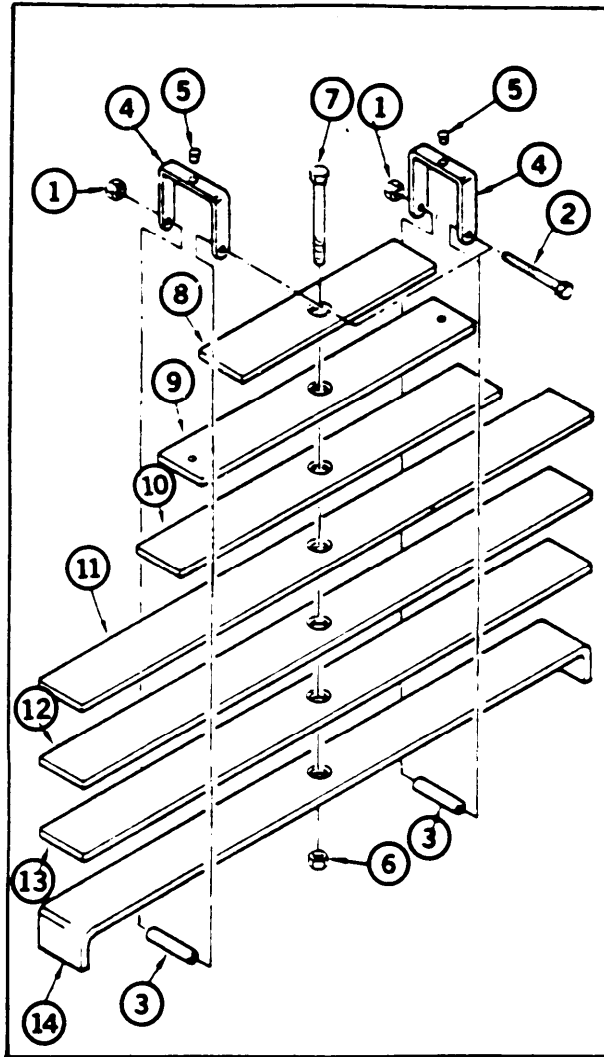
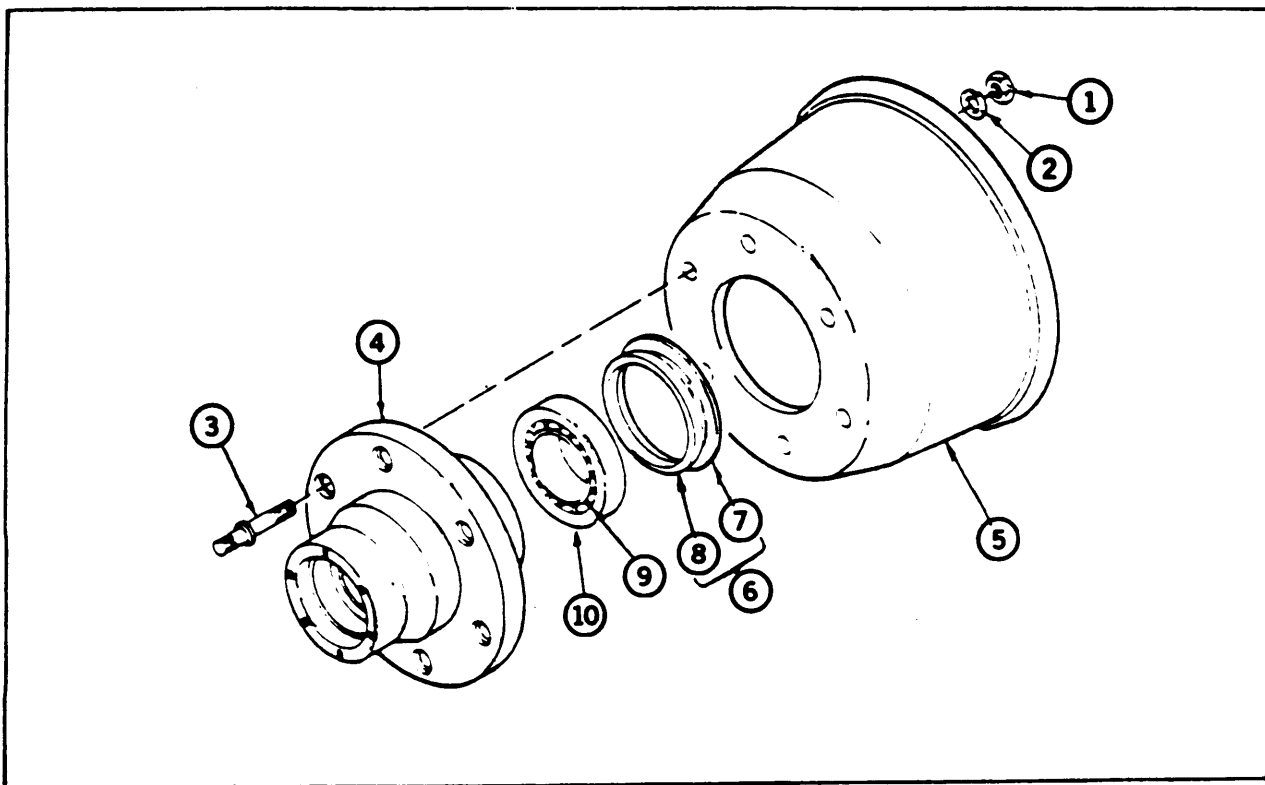
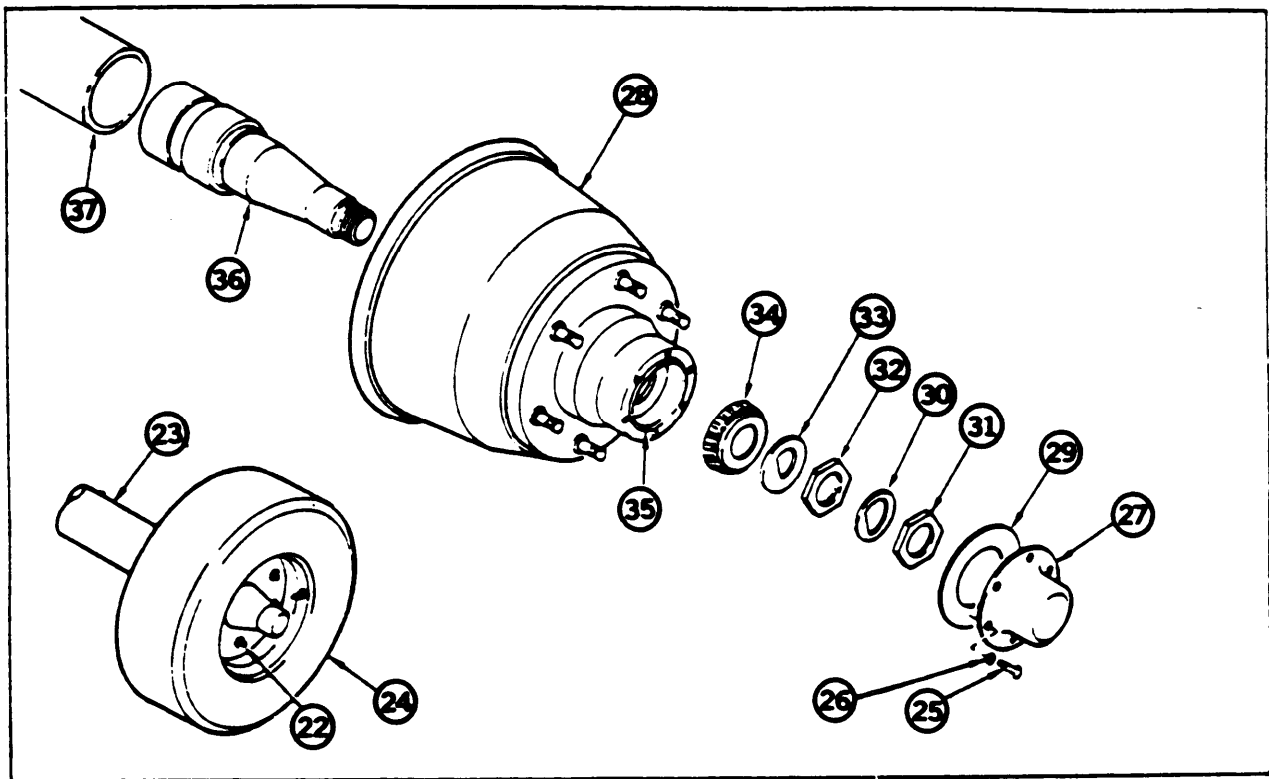

Figure 3-53. Trailer Spring Assembly (ARMY)
Figure 3-54. Trailer Hub and Drum Assembly (ARMY)
Figure 3-55. Trailer Axle Bar Assembly
- (2) Remove screws (17), clamps (18), and (19), and trunnion bracket (20) from axle trunnion (8). Remove spacer ring (21).
- (3) To disassemble the spring assembly (figure 3-53), perform the following:
- (a) Remove nuts (1), screws (2), spacer tubings (3), and angle bars (4). Remove rivets (5) if damaged.
- (b) Remove nut (6) and screw (7), then separate bars (8) through (14).
- (4) Using a standard lug nut wrench and handle available from a towing vehicle, loosen lug nuts (22) (figure 3-55).
- (6) Carefully remove tire and wheel assembly (24) from hub and drum assembly.
- (7) Remove bolts (25) and washers (26) securing hub cap (27) to hub (28). Remove hub cap (27) and hub cap gasket (29).
- (8) Bend tab of spindle tongue washer (30) up to allow removal of outer spindle nut (31).
- (9) Using spindle nut wrench and handle available from a towing vehicle, remove outer spindle nut (31). Remove spindle tongue washer (30).
- (10) Using the spindle nut wrench and handle, remove inner spindle nut (32), then remove spindle lock washer (33).
- (11) Carefully remove outer bearing cone (34); outer bearing cup (35) will remain in hub.
- (12) Carefully remove hub and drum assembly as a single unit.
- (13) To disassemble the hub and drum assembly (figure 3-54), perform the following:
- (a) Remove nuts (1), washers (2), and studs (3).
- (b) Separate hub (4) and brake drum (5).
- (c) Remove grease retainer assembly (6). It can be separated into ring (7) and seal (8).
- (d) Remove inner bearing cone (9) and cups (10).
- (14) To disassemble the axle bar assembly, which is welded, separate spindle (36) (figure 3-55) from tube (37).
- (1) If new spindle is to be installed, weld spindle (36) (figure 3-55) to tube (37).
- (2) To assemble the hub and drum assembly (figure 3-54), perform the following:
- (a) If grease retainer assembly was separated, install seal (8) in ring (7).
- (b) Install bearing cups (10) in hub (4), then pack inner bearing cone (9) in accordance with Lubrication Order, LO 10-4610-215-12, and install inner bearing cone (9) and grease retainer assembly
(3) Carefully position, as a single unit, hub and drum assembly over end of spindle (36) (figure 3-55) and slide into position.
(4) Pack outer bearing cone (34) in accordance with Lubrication Order, LO 10-4610-215-12, then install outer bearing cone (34)
- (12) Lower axle assembly (23) until wheels are secure on ground or floor.
- (13) Using the lug nut wrench and handle, securely tighten lug nuts (22).
(14) Raise assembly clear of ground or floor and check wheel for wobble by holding the wheel at two opposite points, on line with the center. Push at one point and pull at the other, (both forces in line with the centerline of the axle.)
(15) Countercheck wheel bearing looseness visually by manually trying to pull the wheel off the axle, then immediately reversing the action by pushing the wheel further into the hub.
- (16) Position hub cap gasket (29) and hub cap (27) to hub (28), then install washers (26) and bolts (25).
- (17) Lower complete assembly to ground or floor.